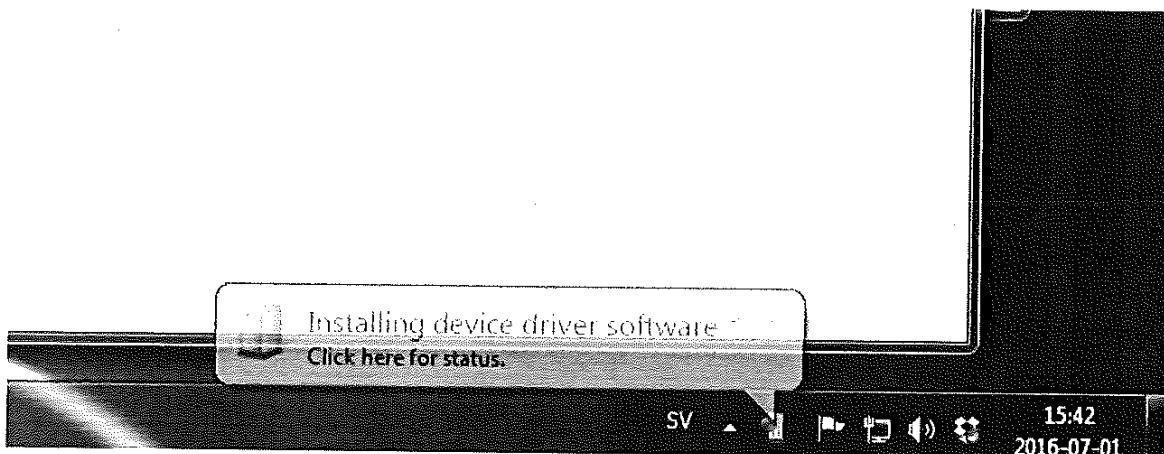

Figure 6. USB driver installation.
- The computer will try to install the USB drivers, see figure 6. Click on the pop up window in order to see the status information.